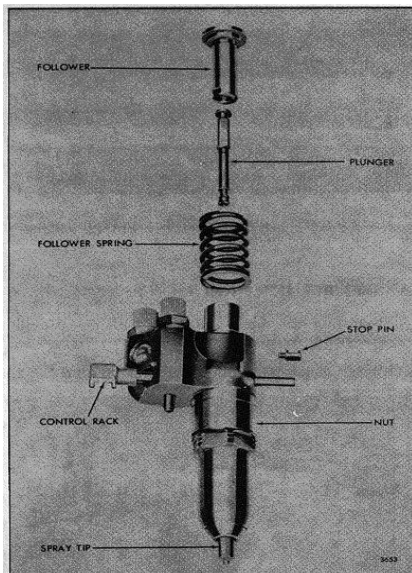

Fig. 37. Injector Plunger, Follower and Relative Location of Parts
- Refer to Fig. 37 and slide the head of the plunger into the follower.